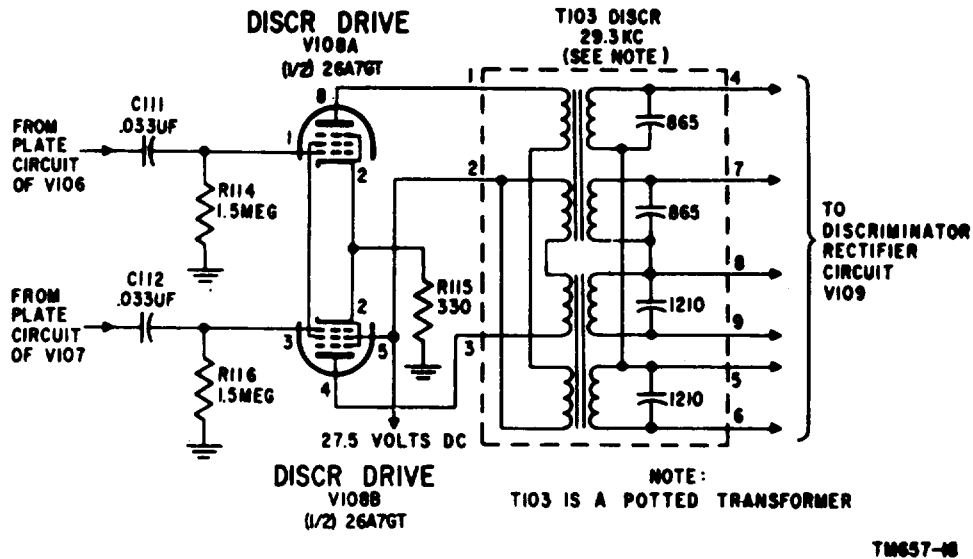

Figure 9. Discriminator drive stage V108, schematic diagram.
12. Discriminator Drive Stage V108 (fig. 9)